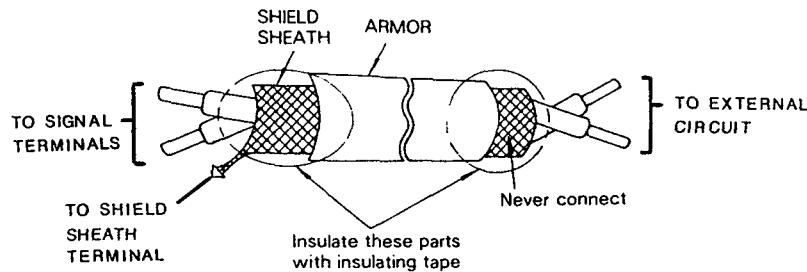

Figure 3. Shielded Sheath Termination
- Use twisted shielded or twisted-pair shielded wire, 20-14 AWG (0.5-2mm²), for control circuit leads. Wire size should be determined considering voltage drop in leads. See Figure 3: connect shield sheath AT THE INVERTER END ONLY; the far end should be dressed neatly and left unconnected.